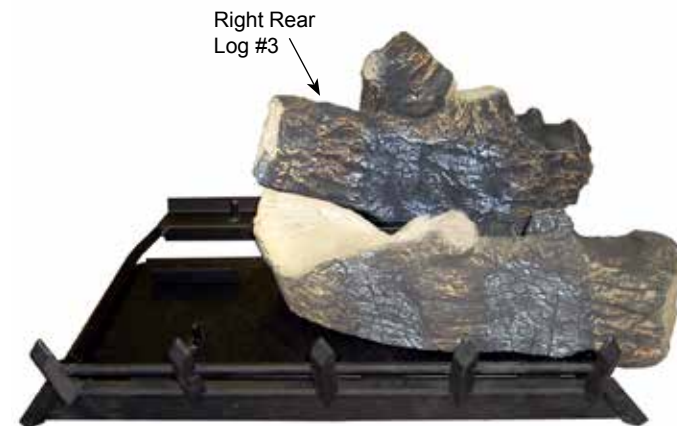

Figure 29. Place Right Rear Log #3
3. Place right rear log (#3) on pin located on rear support bracket and rest left side of log on front right log. Figure 29.